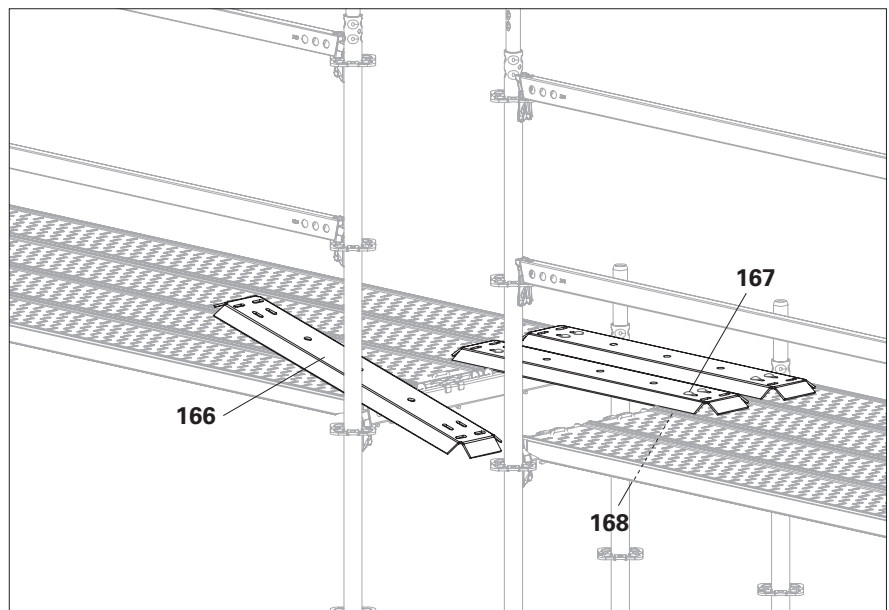

Fig. A7.05a
- The screw connection can be made through any hole or slot. (Fig. A7.05a)